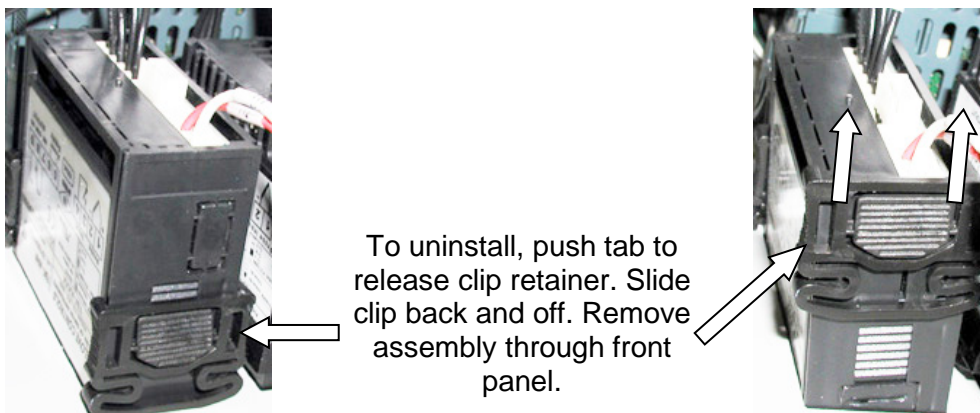

Figure 8-29. Removing Over-Temperature Switch Assembly
4. To remove the Over-temperature Switch assembly, push in tab of each of two side retaining clips (Figure 8-29), slide toward rear and remove.